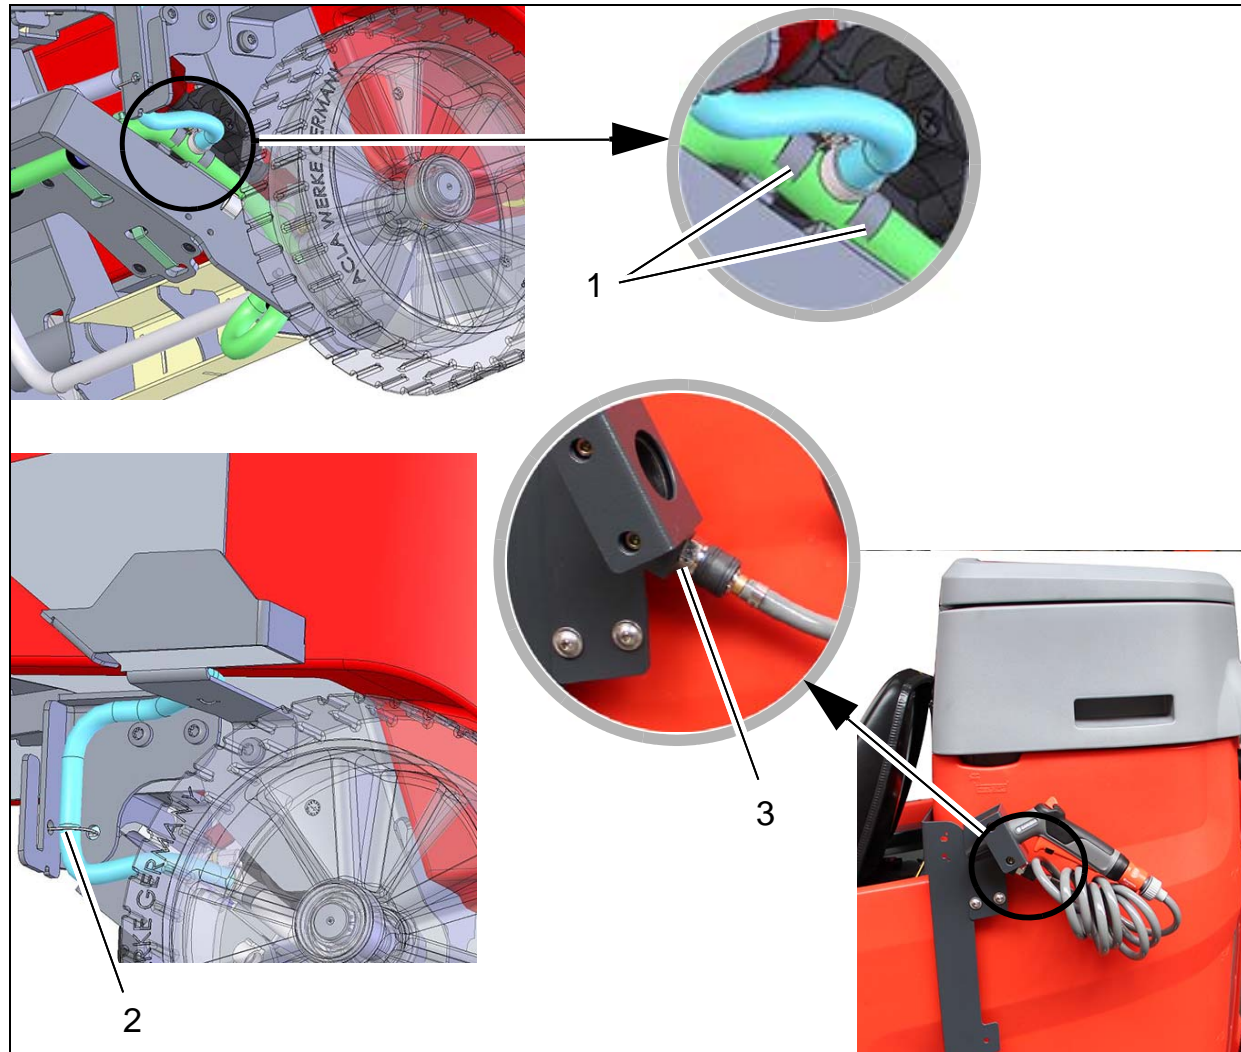

Fig. 4
1. Cut water hose at machine side (shown in green in Fig. 4) and insert T-piece of holder hose (shown in blue in Fig. 4) accordingly.
2. Secure hoses to T-piece at both sides using hose clamps (Fig. 4/1).
3. Fix hose to holder of wiper using cable tie (Fig. 4/2).
4. Connect hose connection of spray nozzle to water connection of machine (Fig. 4/3).